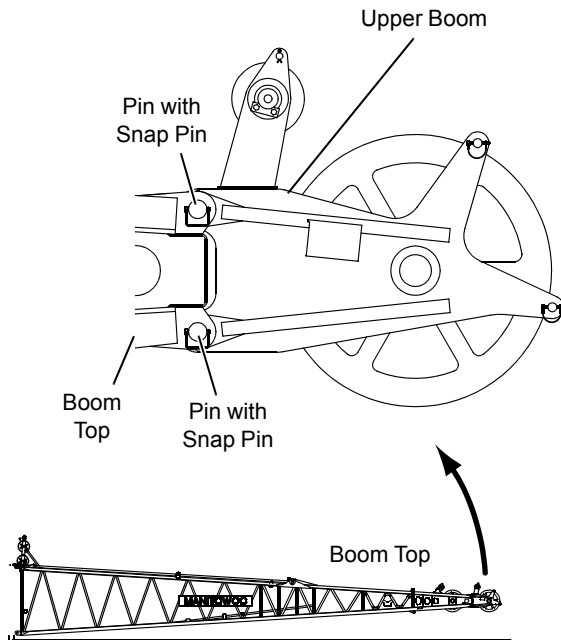

FIGURE 4-36
See Figure 4-36 for the following procedure.
6. Remove upper boom point (Figure 4-36).